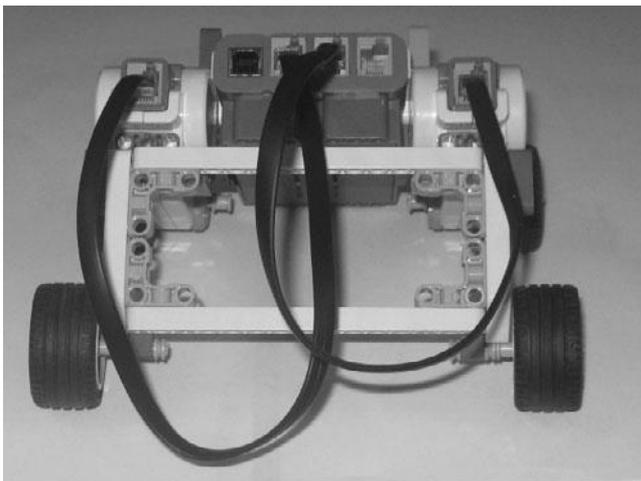

Figure 9.23
Step 3—To operate, the robot's two servo motors must be connected to the NXT Brick. Set this up by connecting the left servo motor to the NXT Brick's C port and the right servo motor to the NXT Brick's B port using a pair of 35cm/14-inch cables, as shown in Figure 9.23.